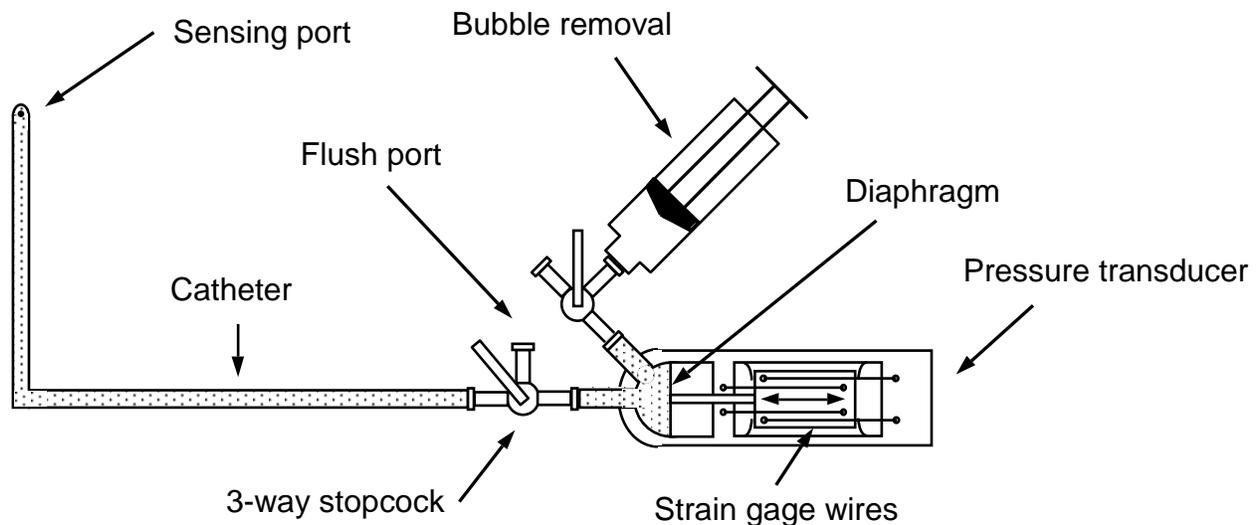

Figure 1: Extravascular blood pressure measuring system
To understand how extravascular blood pressure is measured using a liquid filled catheter system (Figure 1), and to investigate the limitations of such a system. A test setup will be assembled to generate pressure waveforms, and the frequency response of the second-order catheter/fluid/transducer system will be characterized, using catheters of different sizes and materials to demonstrate how these properties affect the readings. There will also be an initial introduction to the oscilloscope and function generator.
In clinical situations, blood pressure is often measured directly by introducing a fluid-filled catheter into a vein or artery and connecting it to a pressure recording apparatus (Figure 1). The pressure in the blood vessel is transmitted via the liquid column in the catheter to the pressure transducer. The pressure-sensing element in the transducer (strain gauge) is a deformable diaphragm. While one side of the diaphragm is hydraulically coupled to the blood stream by the catheter, the other side is bonded to a series of strain gage wires which provide an electrical signal proportional to pressure. The fidelity with which the recorded response represents the true dynamic blood pressure waveform is affected by the mechanical properties of the catheter-fluid-transducer system. Therefore, in this laboratory, you will build a test system for characterizing the dynamics of the hydraulically
- When performing a frequency response test on the catheter system as done in this lab, why would we not leave a syringe connected the system when performing the tests (like the syringe shown in Figure 1, and the stopcock engaged to let pressure into the syringe)?